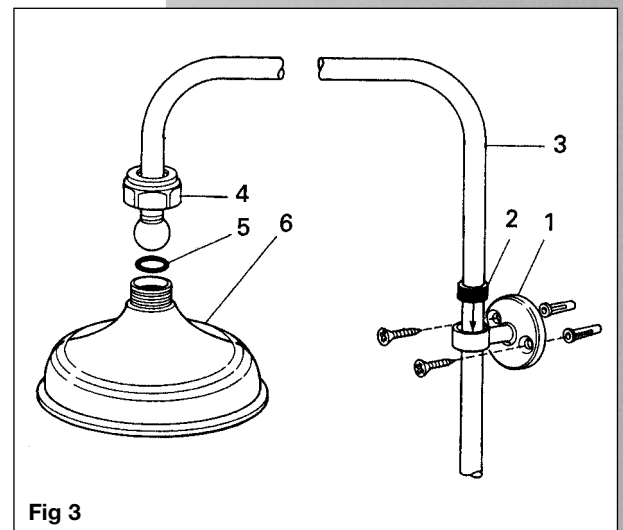

Fig 3
- Push the compression nut (Fig 3) (4) to fix the spray head over the riser tube (3).
- Push the compression nut (Fig 3) (2) and wall bracket (1) onto the riser tube.
- Mark the fixing points of the wall bracket (Fig 3) (1) drill and fix using the plated screws and plugs provided.
- Firmly push the bracket collet (Fig 3) (2) between the wall bracket (1) and riser tube (3)
- Attach the spray head (Fig 3) (6) to the riser tube ensuring that the 'O' ring (5) is in position.